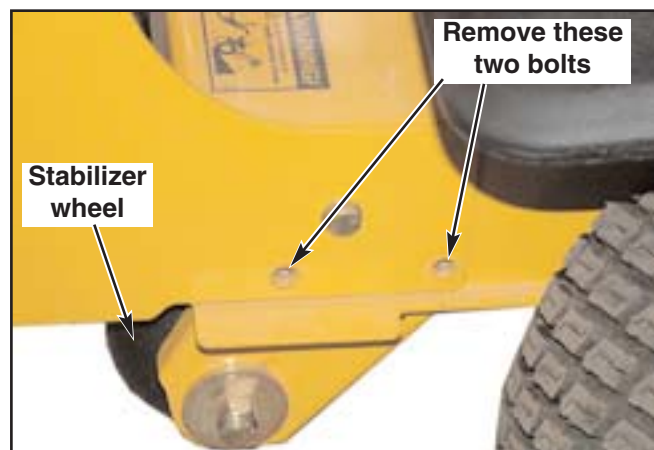

Figure 3-14
5. Remove the two lower bolts on each of the stabilizer wheels and attach the two catcher brace bases (Ref. # 16) using the hardware shown. Fig. 3-14 & 3-15